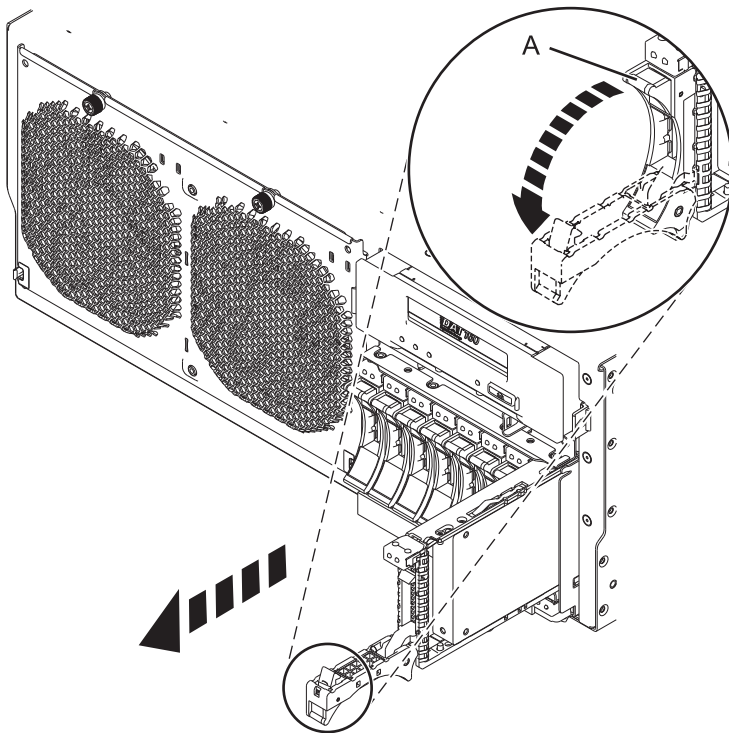

Figure 29. Removing a disk drive from the 8202-E4B, 8202-E4C, 8205-E6B, or 8205-E6C
1. Unlock the disk drive handle by squeezing it and pulling it out toward you, as shown in Figure 29.